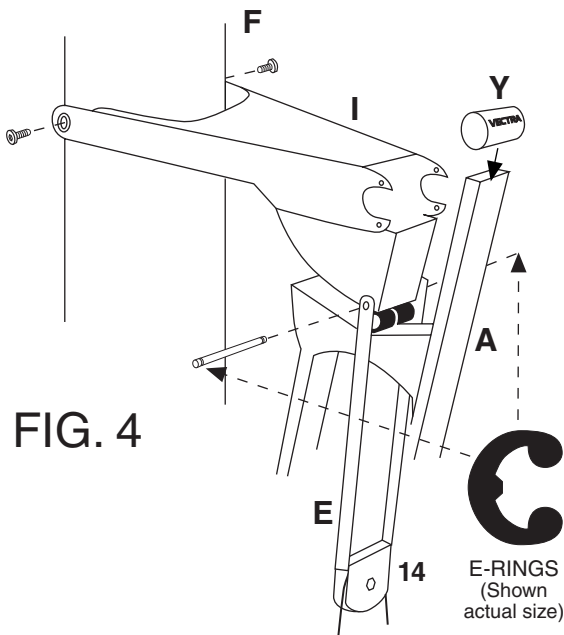

FIG. 4
7. Now bolt the press arm lever (I) to the stack column (F) through the bearings. (1/2-13 x 1 button head screws, qty 2). Tighten very tight with 5/16" hex key. Allow the wheels on the bottom of the press arm lever to rest in the "V" of the press arm support. Attach pulley (E) to the press arm lever (I). The 5/16" diameter pin passes through the front of the press arm lever (I). On each end goes one of the steel strips of the press arm pulley (E) with installed bushing and an e-ring to retain it. Install e-rings with pliers. Make sure the cable is not twisted. **FIG. 4.**
22. Attach lat bar to cable at high pulley. Attach the ab strap at the ab pulley. Ensure that the foam press post cap (Y) is in place on the press arm support (A). **FIG. 4.**